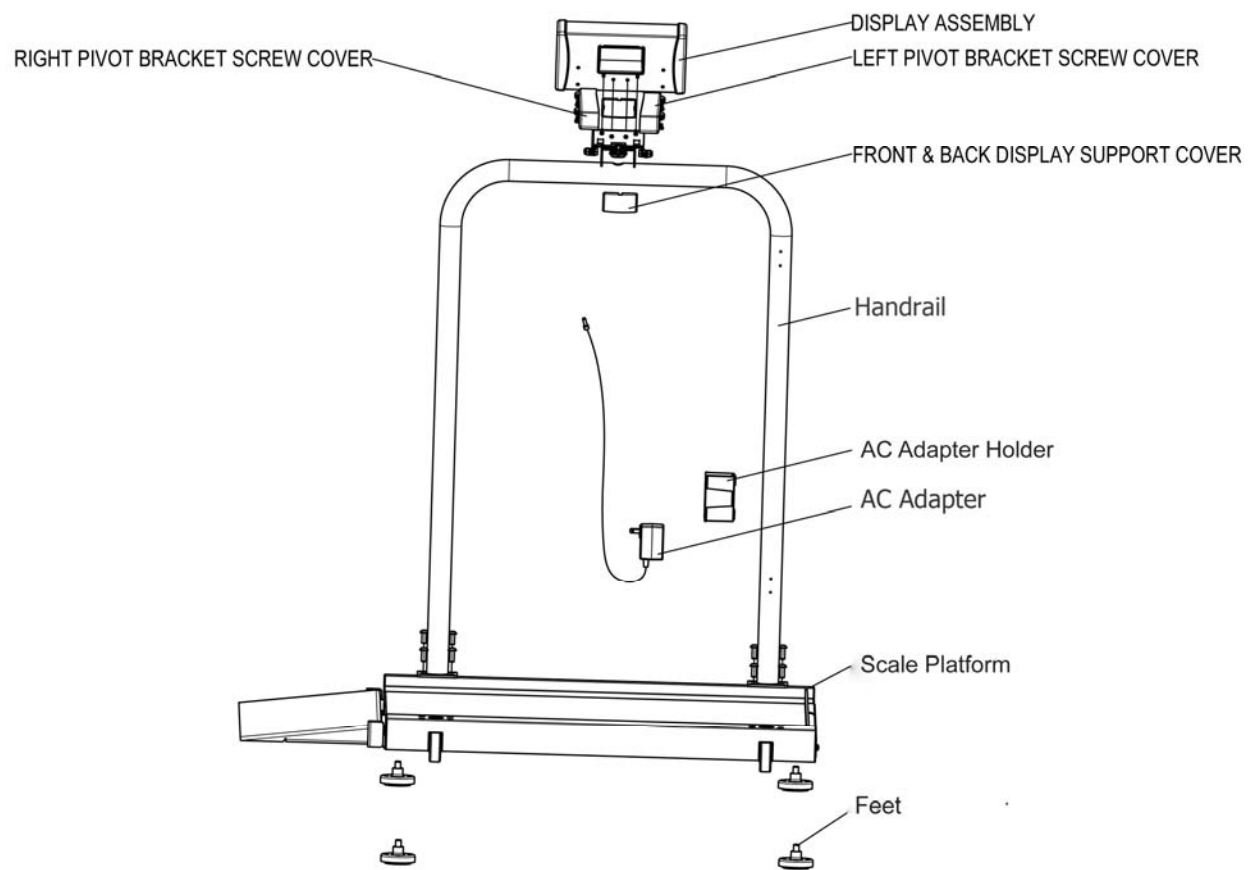

Figure 5
2. Locate and pick up the handrail. Find the load cell cable, located at the bottom of the handrail (see Figure 5).
10. Thread the (4) feet into the underside of the platform. Each of the feet should be completely hand tightened. Back feet out 1-½ full turns. This will allow for proper load cell operation and scale accuracy (see Figure 5).